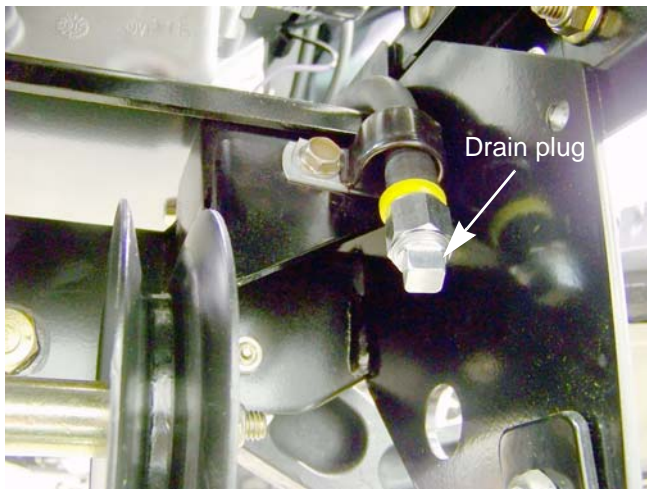

Figure 9.7
4. Place a suitable container under the oil drain at the front of the tractor. See Figure 9.7.